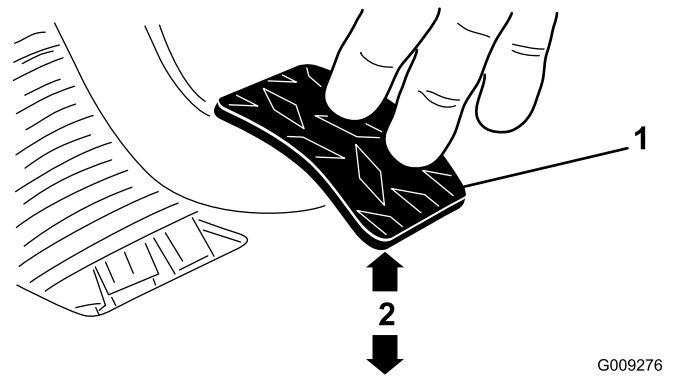

Figure 70
3. Adjust the jam nuts or ball joint until the rear edge of the clutch pedal is 9.2 to 9.8 cm (3-5/8 to 3-7/8 inches) from the top of the floor plate diamond pattern, when an 1.8 kg (4 lb) force is applied to the pedal (Figure 70).